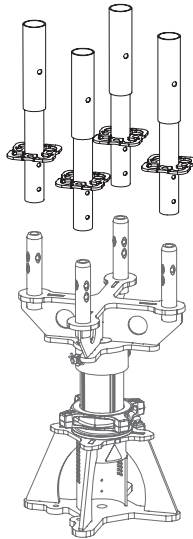

Fig. A1.04a
2. Push the Base Standards UVB-25 (3) onto the pins of the Connection Plate UJC (2) (Fig. A1.04a + A1.04b).